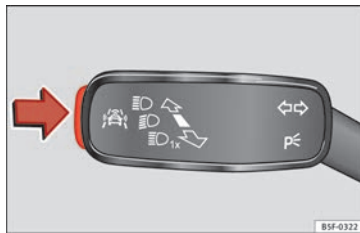

Fig. 44 On the turn signal and main beam headlight lever: button for the driver assistance systems
- Briefly press the button » Fig. 44 in the direction of the arrow to open the menu **Assist systems**.